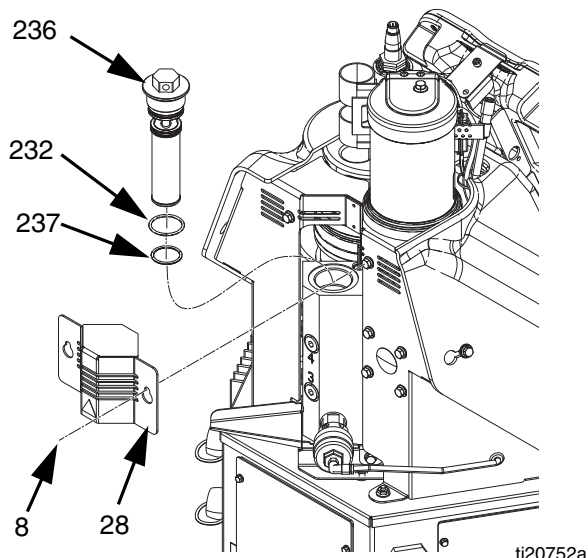

FIG. 21
4. Loosen two screws (8) then slide the small metal shroud (28) on the back of the system up to remove. See FIG. 21.
5. Use a 1 in. socket to unscrew outlet filter (236).
6. Insert allen wrench through the outlet filter cap to lift outlet filter (236) out of the system.
8. Place o-rings (232, 237) provided with new outlet filter onto new outlet filter (236).
10. Install small metal shroud (28) over outlet filter then tighten two screws (8).